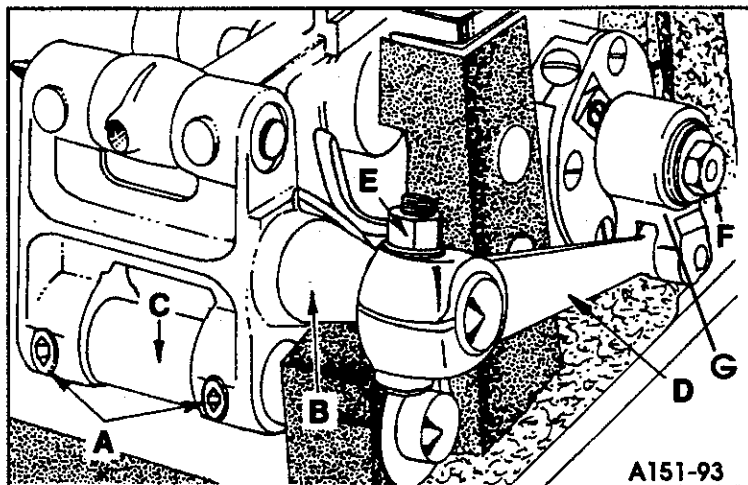

FIG. 13
Right to left adjustment can be made by loosening screws (A, Fig. 13) and slightly move feed rocker (B) on feed rocker shaft (C) as required, then retighten screws. Check to ensure that feed rocker arm (D) does not bind after adjustment.
Forward or rearward centering of the feed dog can be accomplished by loosening nut (E, Fig. 13). Move feed rocker (B) as required and retighten nut.
**CAUTION:** Feed crank link sub-assembly (G, Fig. 13) **MUST** have shake with **NO** binds at a 360° rotation of the handwheel. Nut (F) should be torqued at 55 in. lbs. (63 cm/kg).